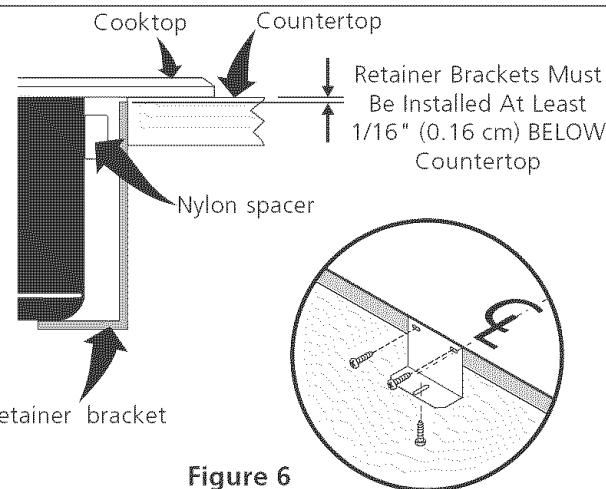

Figure 6
2. Install the retainer brackets. See Figure 6.
The retainer brackets MUST be installed, to meet local codes or, in their absence, with the National Electrical Code ANSI/NFPA No. 70—latest edition (see Figure 6).